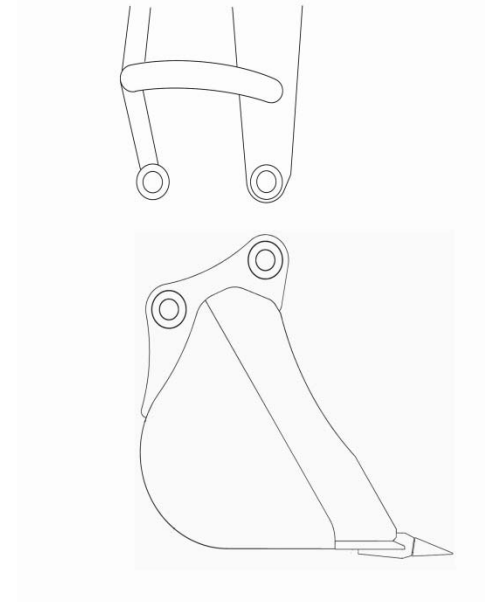

Fig 3.2.1 Remove Bucket
- Before you fit the coupler to the carrier machine you have to first remove any existing attachment from the dipper arm. (Fig 3.2.1)